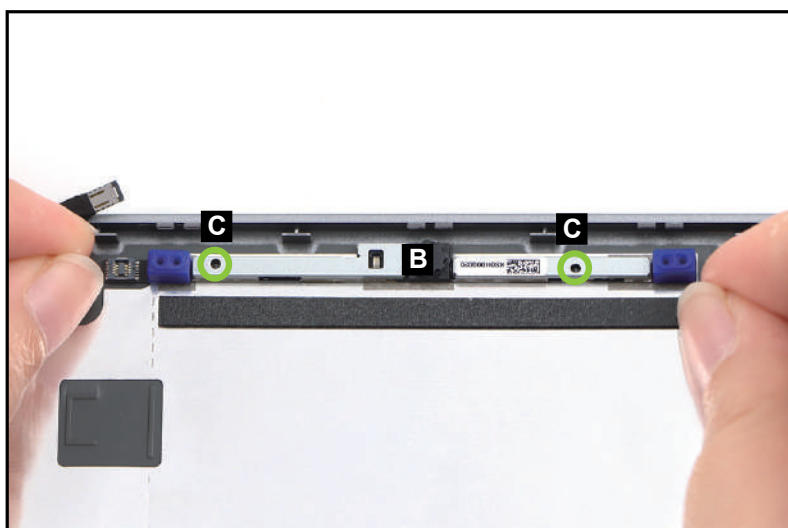

Figure 3-91. Replacing the Camera Module
2. Align and install the camera module (B) to its compartment on the LCD cover (Figure 3-91).
When installing the camera module, make sure it is properly aligned with the guide pins (C) and placed onto its designated location as shown in Figure 3-91.